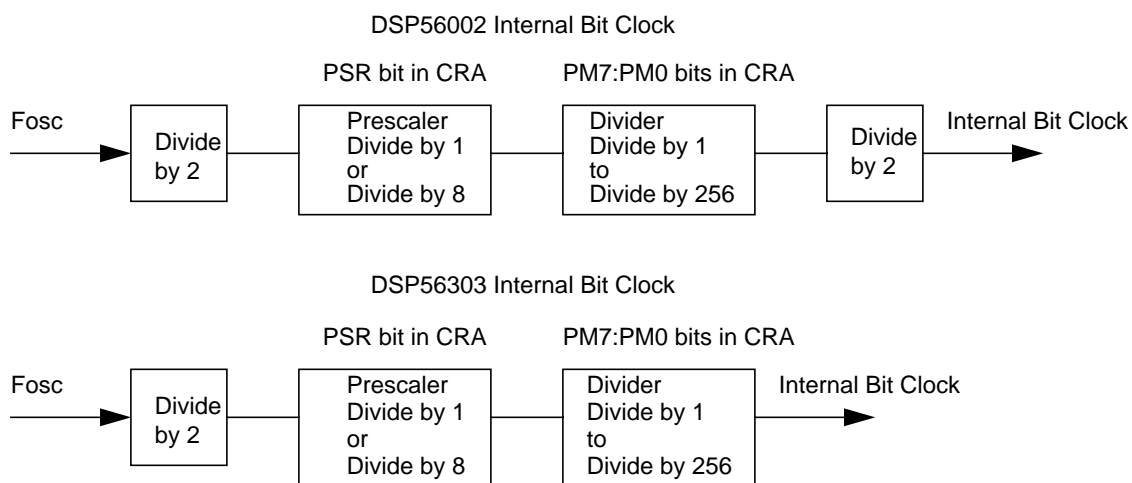

Figure 6. DSP56002 and DSP56303 Internal Bit Clock Block Diagram
- Internal Bit Clock: The divide by 2 block in the DSP56002 SSI clock generator chain is absent in the DSP56303 ESSI clock generator. **Figure 6** shows the internal bit clock block diagram of each device.